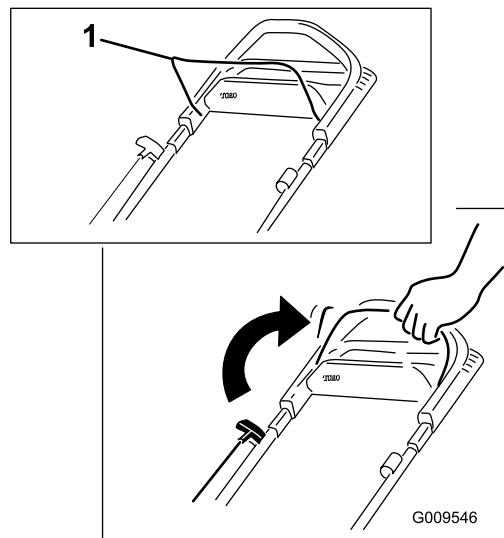

Figure 15
1. Hold the blade-control bar against the handle (Figure 15).